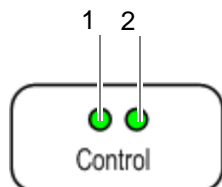

Figure 7.1 TIB indicators
- ➔ The Power LED (1) is lit and the Alive LED (2) flashes in periodical intervals, refer to Figure 7.1.